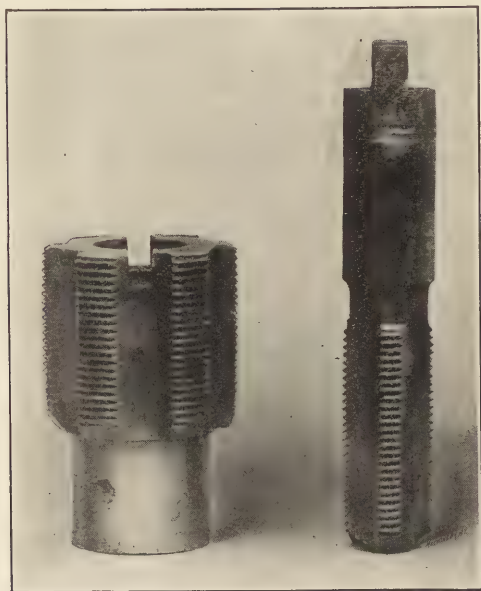

Fig. 16. 2 1-4" and 1" Taps.
**Hardening Taps.**—Of the two taps shown in Fig. 16, one is a  $2\frac{1}{4}$ -inch tap and the other is a one-inch tap. Both are of the same pitch—12 threads per inch. The total lengths of holes tapped in cast iron by these two taps was 7,500 linear inches, or 625 feet, and they were in fairly good shape at the end of this service. They were used both in piece work and day work by inexperienced hands. The taps are soft enough to be machined anywhere except at the teeth. The one-inch tap is solid and if required could be drilled down through the center the entire length from the top to about  $\frac{1}{4}$  inch from the bottom. This makes the tool tough and allows it to spring; and it will not snap off the way so many tools do that are hardened all the way through. The  $2\frac{1}{4}$ -inch tap, being hollow, was arranged the same as a hollow mill, with the stud, etc., but was dipped at a much lower heat. Both taps were kept in the salt water just long enough to harden the teeth and then put in oil and left there until cold.